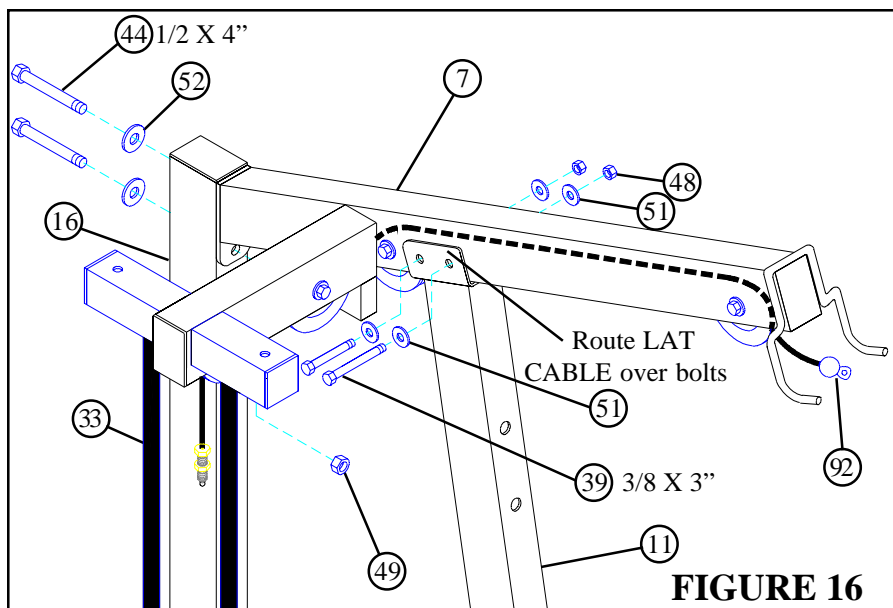

FIGURE 16
- Swing the GUIDE RODS (33) under the TOP BOOM (7) as shown on FIGURE 16.
- Loosely assemble the TOP BOOM (7) to the REAR UPRIGHT (16) using two 1/2 X 4" BOLTS (44), two 1/2" WASHERS (52), and one 1/2" LOCKNUT (49).
- Loosely assemble the TOP BOOM (7) to the FRONT UPRIGHT (11) using two 3/8 X 3" BOLTS (39), four 3/8" WASHERS (51), and two 3/8" LOCKNUTS (48). Make sure LAT CABLE (92) is routed **OVER** top of bolts.